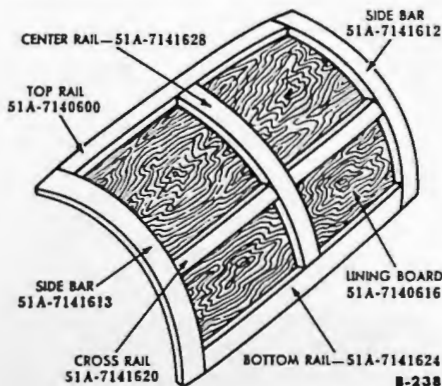

Fig. 3—Luggage Compartment Door
The luggage compartment door wood part numbers are illustrated in fig. 3.
(1) **TOP RAIL OR BOTTOM RAIL REPLACEMENT** (fig. 3). Remove the hardware from the luggage compartment door. Remove the screws from the joints.
(2) **SIDE BAR REPLACEMENT** (fig. 3). Remove the hardware from the luggage compartment door. Remove the screws from the joints.
(3) **CROSS RAIL REPLACEMENT** (fig. 3). Remove the hardware from the luggage compartment door. Remove the screws from the lining board. Cut a small hole in the lining board to remove the screw in the joint at the center rail. Saw through the cross rail near the side bar and center rail. Saw the cross rail in small pieces and remove them from the lining board, being careful not to damage the lining board. Using a chisel, clean the joint in the center rail. Saw the new cross rail joint off at the side bar, and install the new cross rail, using glue on the joint. Install the screw in the joint at the center rail and in the lining board. Drill two holes in the rabbet stand of the side bar and in the end of the cross rail, and install the dowel pins, using glue to secure them. Install the hardware. Fill the hole in the lining board with plastic filler.
(4) **CENTER RAIL REPLACEMENT** (fig. 3). Remove the hardware from the luggage compartment door. Remove the screws from the lining board. Cut small holes in the lining board to remove the screws from the joints at the cross bars. Saw through the center rail at the top rail, bottom rail, and on both sides of the cross rails. Saw the center rail into small pieces, and remove them from the lining board, being careful not to damage the lining board. Clean the joints, and install the new center rail, using glue on the joints. Install the screws in the joints and the lining board. Install the hardware, and fill the holes in the lining board with plastic filler.